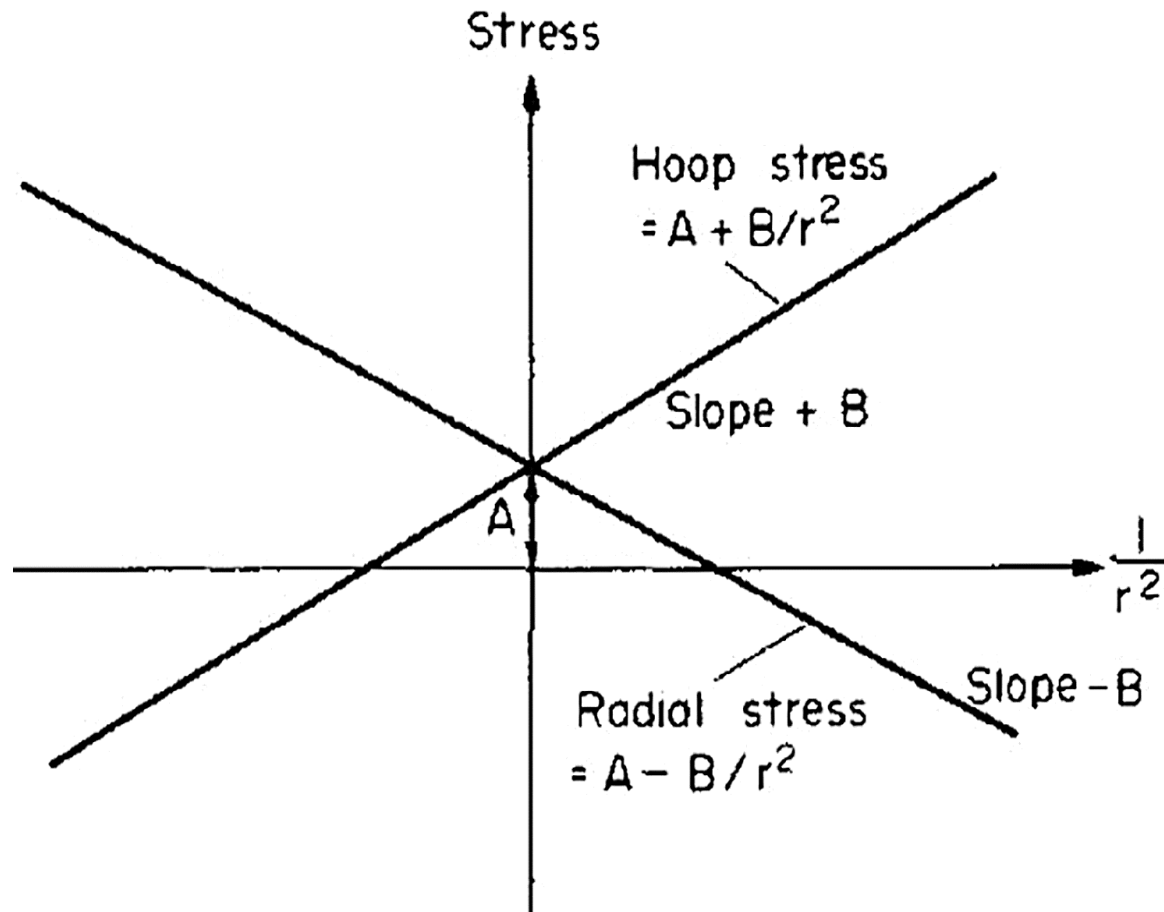

Fig. 4.4 (a): Graphical representation of **Lame** equations - **Lame** line.
- The two lines may be modified to a single a straight line, where (σ_r) , lies to the left and (σ_θ) , to the right, as shown by Figure 4.4 b.